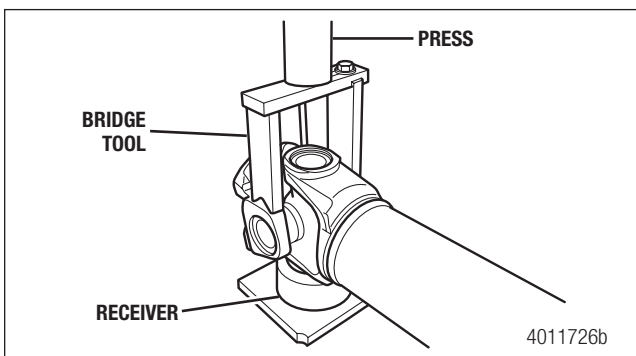

Figure 5.68
3. Install a press bridge tool (SPX ICM Kent-Moore tool number J-42368-1) on the ears of the drive flange and a bearing cup bushing receiver (SPX Kent-Moore tool number J-42368-2) underneath. Figure 5.68.